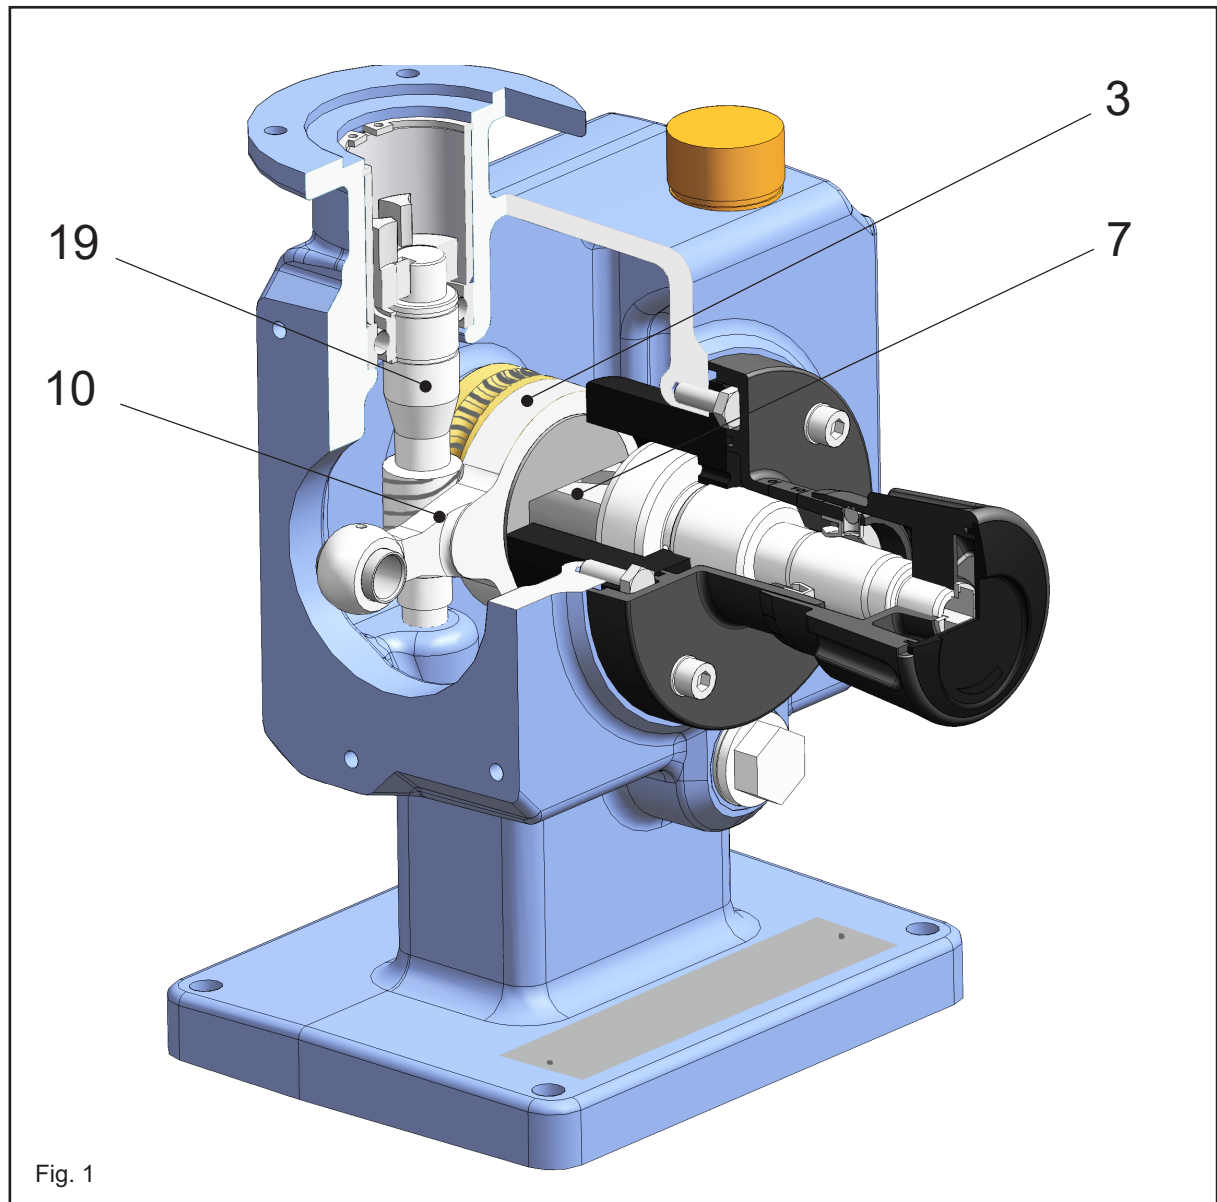

Fig. 1
See fig. 1: The drive element mainly consists of the worm shaft (19), the worm wheel (3), the adjustment unit (7), the connecting rod (10) and the manual stroke adjustment.